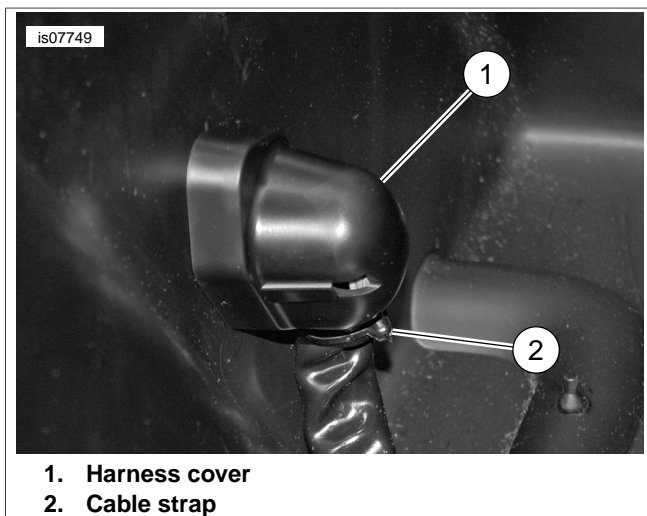

Figure 4. Harness Cover
4. See Figure 4. Snap the harness cover over the connector. Secure with a cable strap. The harness routes inside the saddlebag after the amplifier is mounted.